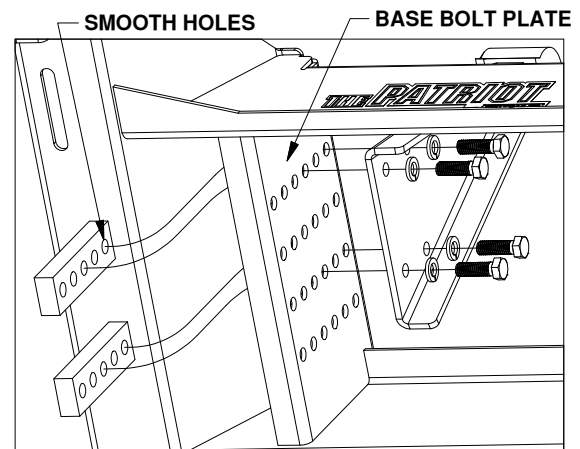

Figure A4: View under the base.
3. Secure arms. Retrieve both pivot arms, the four threaded blocks, eight 1/2" cap screws, and eight 1/2" lock washers. Place the lock washers over the cap screws. Align the flat side of the pivot arm against the bolt plate and install four 1/2" cap screws through the holes on the arm, holding the arm in place, as shown in Figure A4. Locate the threaded blocks. Note that the sides of the block have threaded holes on one side and smooth bored holes on the other side. When installing the threaded blocks, it is critical that the side with the smooth holes is flat against the bolt plate. It is also crucial that each of the five holes in the threaded block matches up with a vertical hole in the bolt plate. Pass the threaded block under the base's side, align the block with each set of screws, and then start each screw. After all the screws are started through the arms, tighten and torque each bolt to 110 ft-lbs.